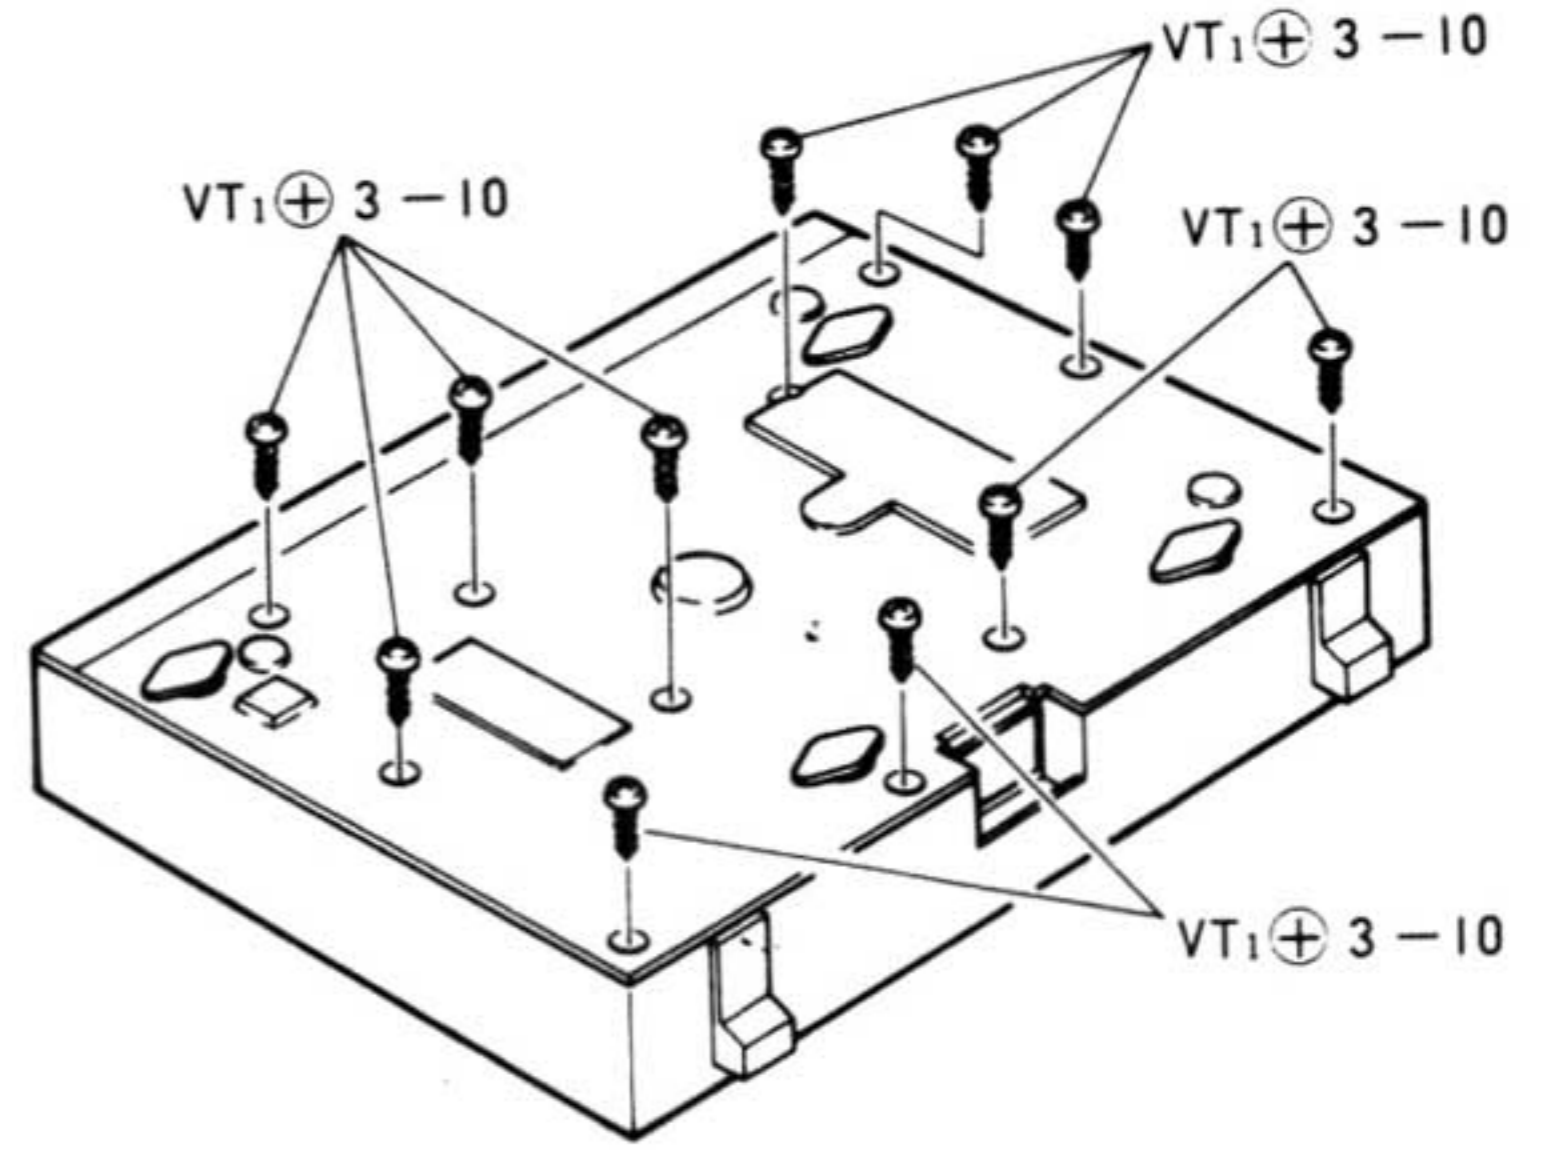

Fig. 4
- 4) Remove the 11 screws (See figure 4)